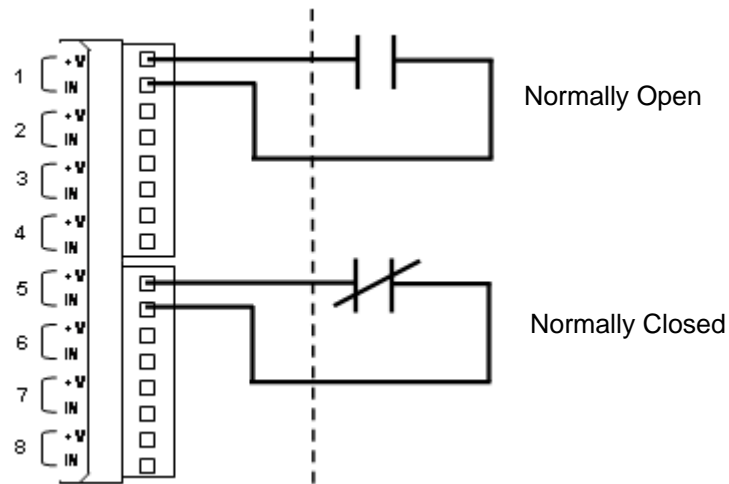

Figure 8 - Preferred input wiring: two wires per channel.
If your inputs are widely distributed, we recommend that you use two (2) wires for each input. See *Figure 8*.